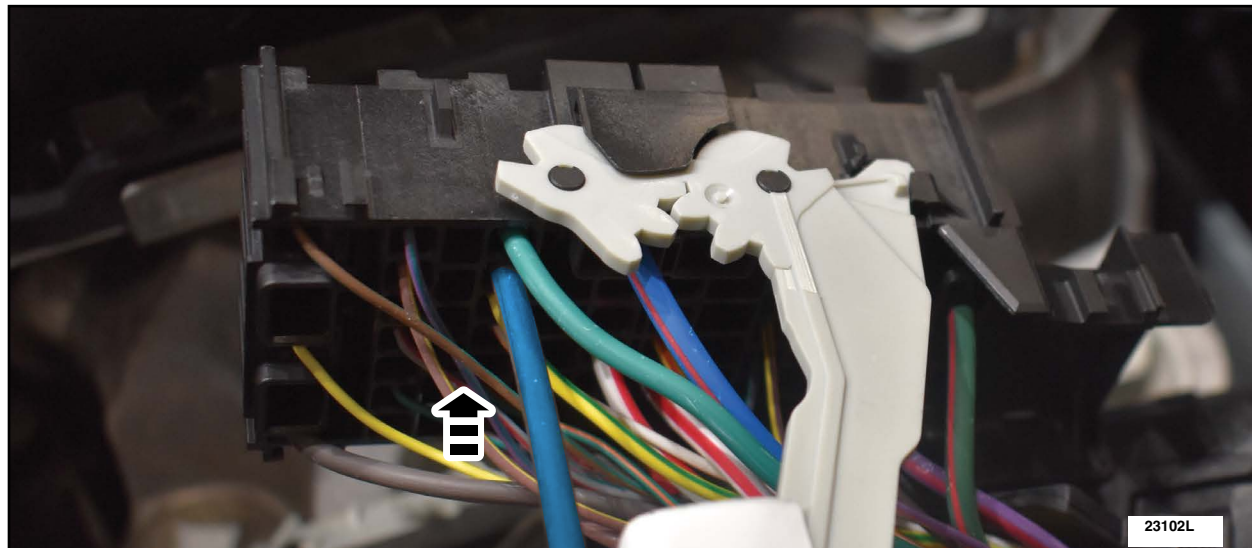

FIGURE 10
12. Insert new terminal into Cavity 33. Position the terminal gap down and push until a click sound is heard. Set the TPA back into position. See Figure 10.